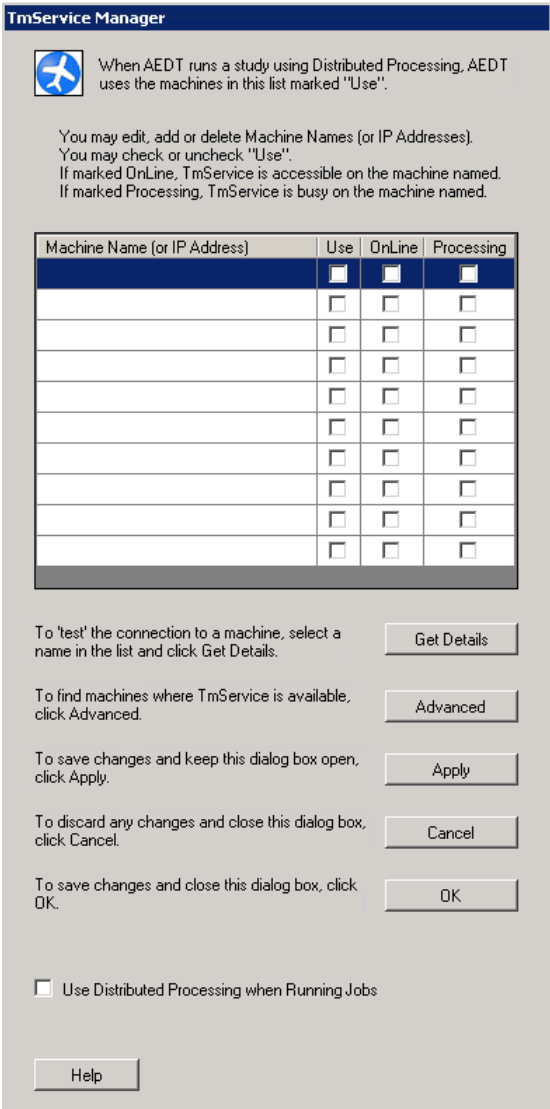

Figure 7-3 TmService Manager Dialog Box
1. From the menu bar select *File, Distributed Processing Setup* (Figure 7-3).
In the *TmService Manager* dialog box (Figure 7-3), check the *Use Distributed Processing when Running Jobs* checkbox. AEDT will run jobs in distributed processing mode when the Run button is clicked in the *Jobs* dialog box. If not checked, processing on a single computer will be the default processing method for all job runs.